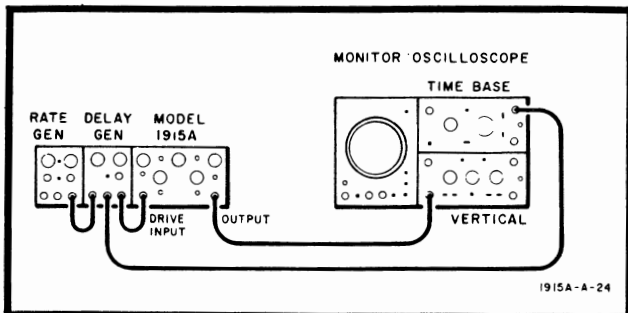

Figure 5-17. Adjustment Test Setup
- a. Connect equipment as shown in Figure 5-17.